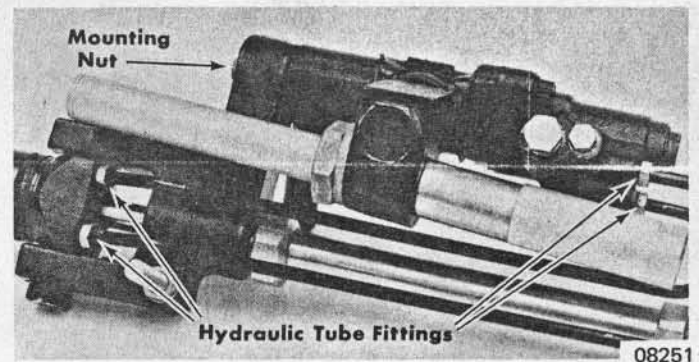

Figure 2. Valve Alignment Adjustment
- b. Reposition control valve by loosening mounting nut and 4 hydraulic tube fittings. (Figure 2)